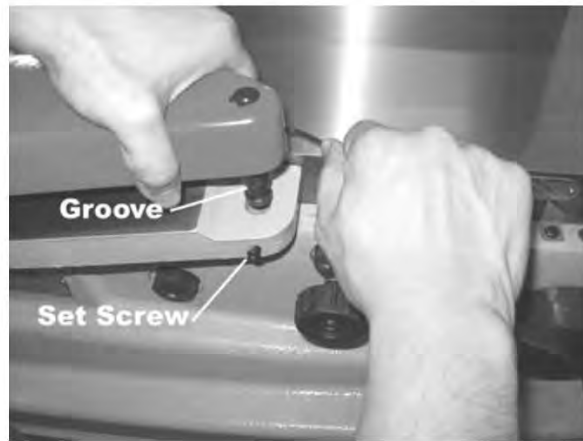

Figure 6
3. Lower the shaft of the guard into the hole on the jointer's rabbeting ledge. See Figure 6. The guard should be lowered into the hole far enough that the groove in the guard's shaft will align with the set screw (Figure 6).
5. Completely tighten the set screw (Figure 6), while continuing to hold the hex wrench and pin with your right hand.
6. When the guard is secured, remove the hex wrench from the pin. Slightly loosen the set screw (Figure 6) until the pin snaps back against the rabbeting ledge.
7. Re-tighten the set screw (Figure 6).